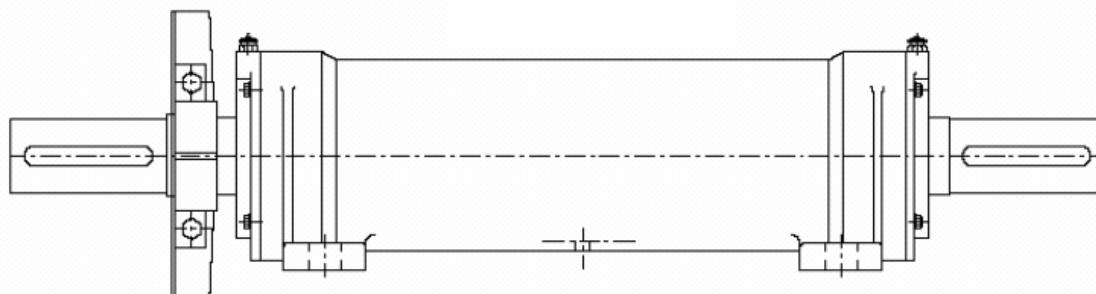

Fig. 10.8 Support with cooling fan
- 1.- For supports with a cooling fan installed, the cooling fan must first be dismantled (Fig. 10.8).